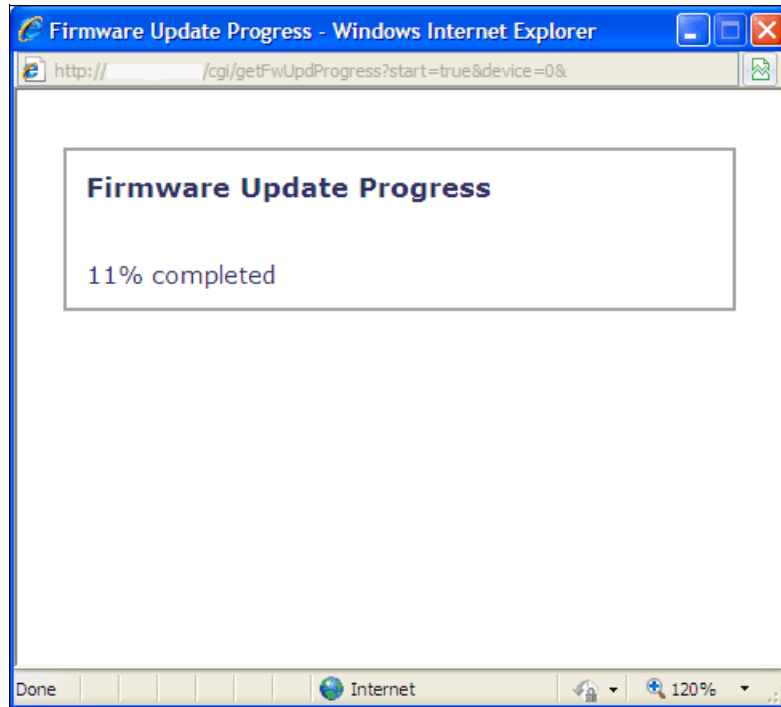

Figure 16-9 SAS Connectivity Module - installation confirmation
4. Click **Install** to install the new file. A firmware update progress window opens, as shown in Figure 16-9.